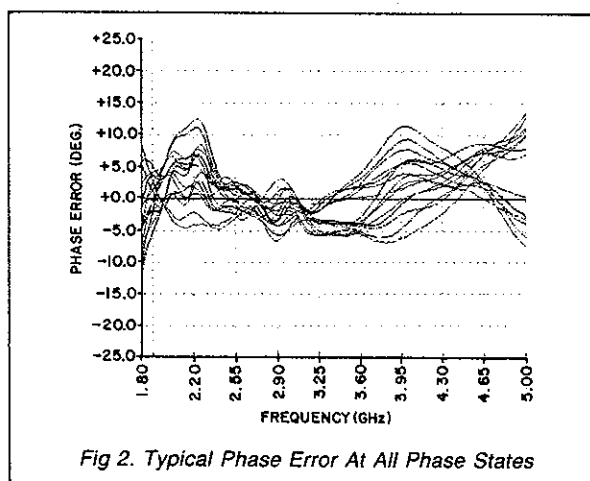

Fig 2. Typical Phase Error At All Phase States
(2) Above 1 MHz translation rate (LSB @ 16 MHz rep rate) the power supply current will increase to +5.0V at 325mA, -12V at 275mA, at 2 MHz.
(3) The unit will operate over the frequency range of 1.8 to 5.0 GHz with slight performance degradation. See figure 2.